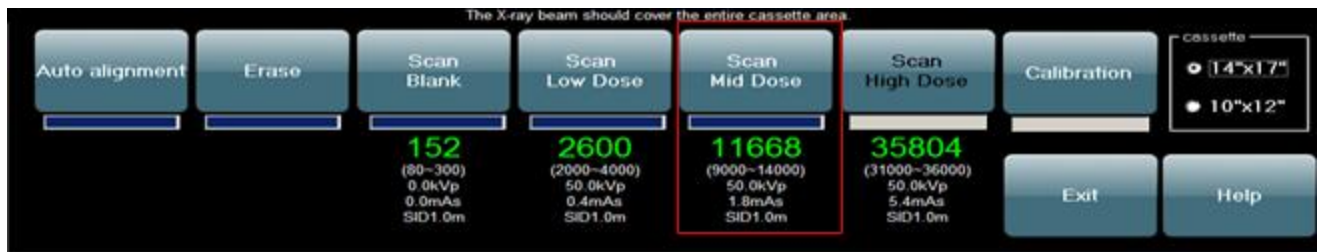

Figure 12
- › Left click *Scan Mid Dose*. *Figure 12*